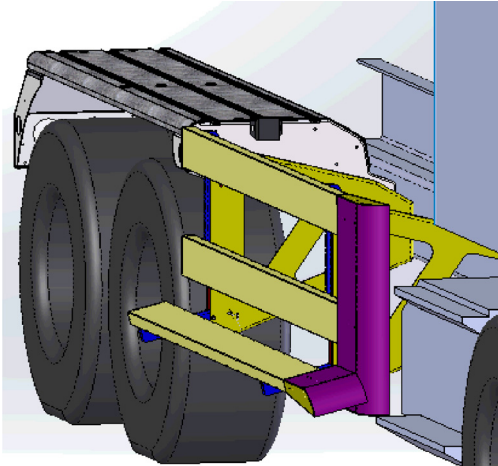

Figure 125
3. Install each lower pin through the open holes in each bottom rail and gusset (Figure 125).